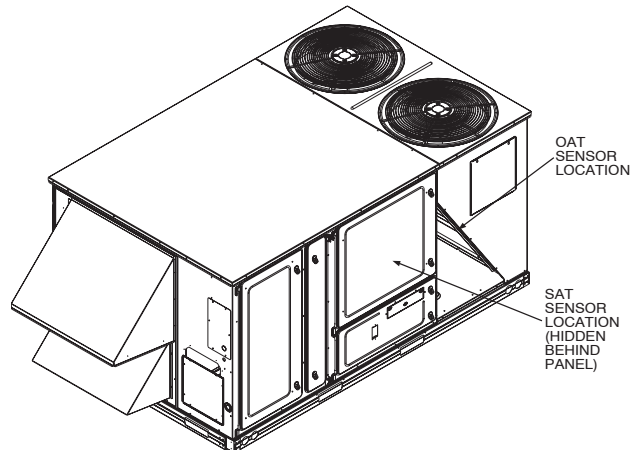

Fig. 7 – OAT and SAT Sensor Locations (48PG08-14 Shown)
12. The OAT and SAT (supply air temperature) sensors are factory installed in the rooftop unit even when there is no factory-installed economizer. The OAT sensor is located on the angled edge of the condenser coil. The SAT sensor is located on the side plate of the indoor fan. See Fig. 7.
10. The OAT and SAT sensors are factory installed in the rooftop unit even when there is no factory-installed economizer. The OAT sensor is located on the angled edge of the condenser coil. The SAT sensor is located on the side plate of the indoor fan. See Fig. 7.